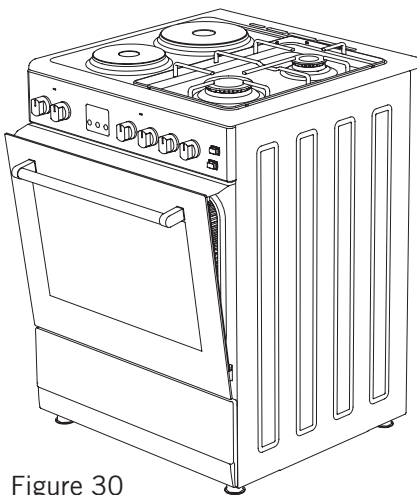

Figure 30
4. And then secure the safety panel in between oven and front cover by gently closing the cover. (Figure 30)